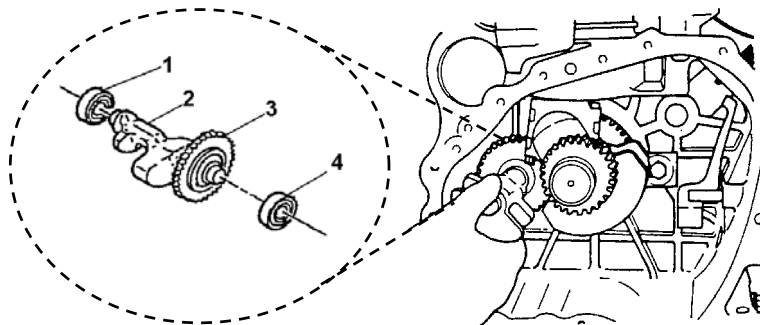

Figure 4. Balancer Shaft.
1. Rotate the balancer shaft and note the alignment dots on the gear teeth (3) for assembly. See Figure 4.
2. Pull out balancer shaft (2) from the engine block.
3. Remove the balancer shaft oil seals (1,4) only if necessary. See Figure 4.